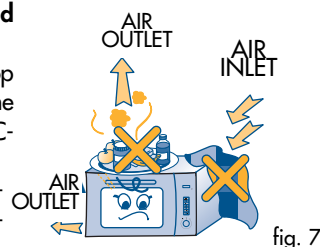

fig. 7
- 6) Do not block the air intake vents. In particular, do not place any objects on top of the oven and check that the air and steam outlets (placed on the top, on the bottom and or on the back of the appliance) are ALWAYS FREE OF OBSTRUCTIONS (fig. 7).
- 7) Place the support (I) in the centre of the circular groove and attach the turntable (H) to it. The spindle (D) should be inserted in the corresponding groove in the centre of the turntable.